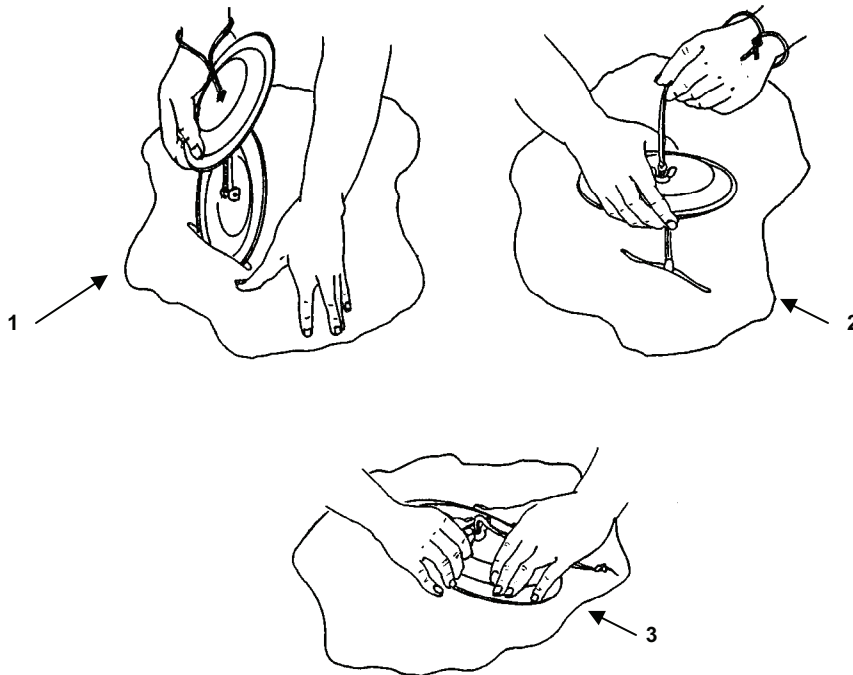

Figure 2. Repair of Collapsible Fabric Tank with Sealing Clamps.
- a. Small slits, tears, or cuts [not to exceed 6 inches (15.24 cm) in length] may be repaired with sealing clamps. Refer to Figure 2.